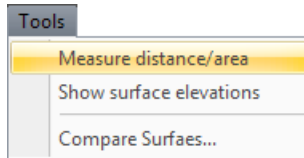

Figure 6-2.
1. To measure (compute) the distance/area of a selected point on the alignment surface, click **Tools ► Measure distance/area** (Figure 6-2).